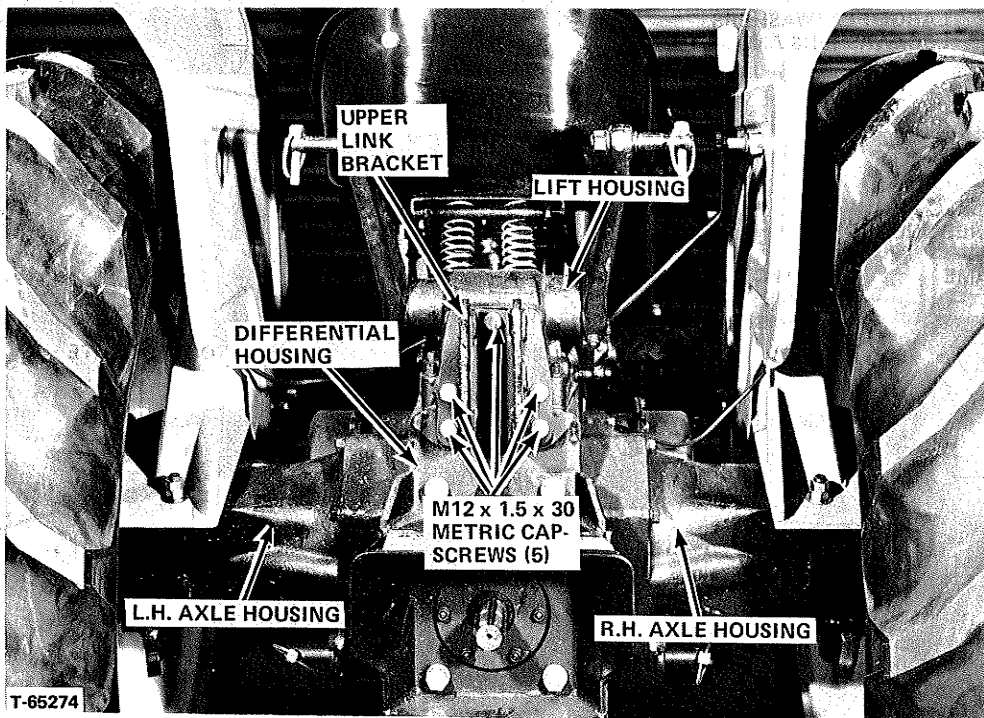

FIGURE 3
On Model 5030 and 9528 tractors the lower ends of the protective frame main tube bolt directly to the rear surface of the R.H. and L.H. axle housing with large U-bolts around the housings. The lower cross frame of the assembly bolts between the rear surfaces of the differential housing and lift housing and the front surface of the upper link bracket. See Figures 3 and 4. To install frame on tractor follow these steps:
2. Remove the five M12 x 1.5 x 30 mm metric cap-screws and lockwashers that hold the upper link bracket to the rear of the lift housing and the differential housing and remove the bracket. See Figure 3. Save the lockwashers, but lay the capscrews aside for possible future use if the protective frame is removed.